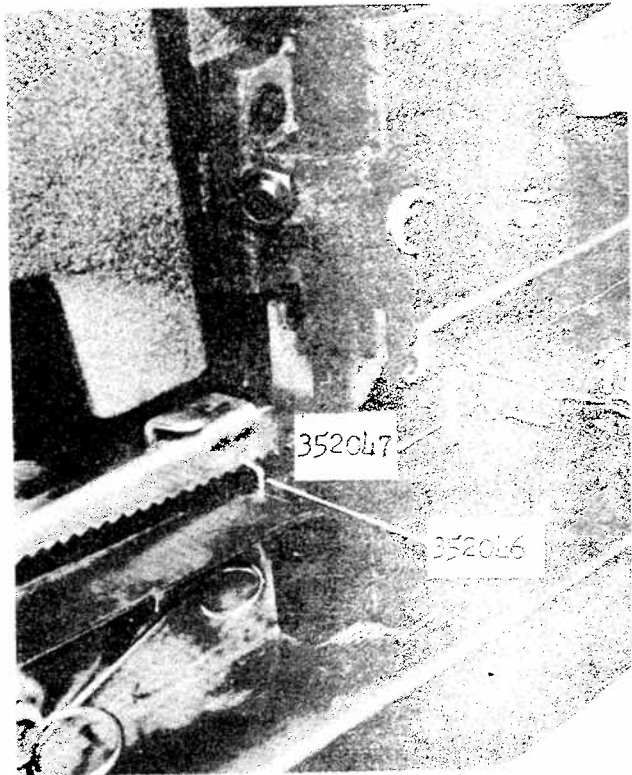

Figure 6
33. SET UP FOR BAND SAWS (Refer to Figure 6):